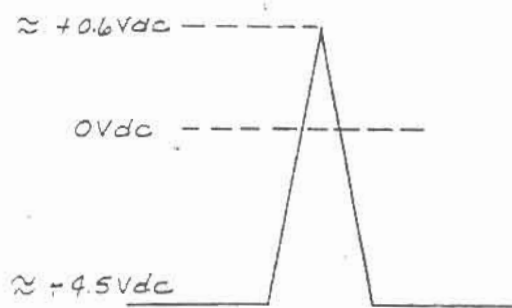

Figure 4-6 Video Marker Pulse
9. With the VAR FREQ MARKER AMPLITUDE potentiometer set fully CW, observe that the video marker pulse begins at approximately -4.5V and terminates at approximately +0.6V. See Figure 4-6. If it does not, adjust the Max Ampl Adj potentiometer R326 for a peak of approximately +0.6V.